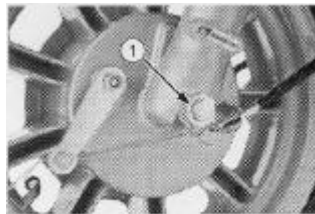

Fig. 18
2. Unscrew and remove the wheel pin nut (1 -FIG. 18).
3. Tighten the wheel pin nut up firmly (1 .FIG. 18).